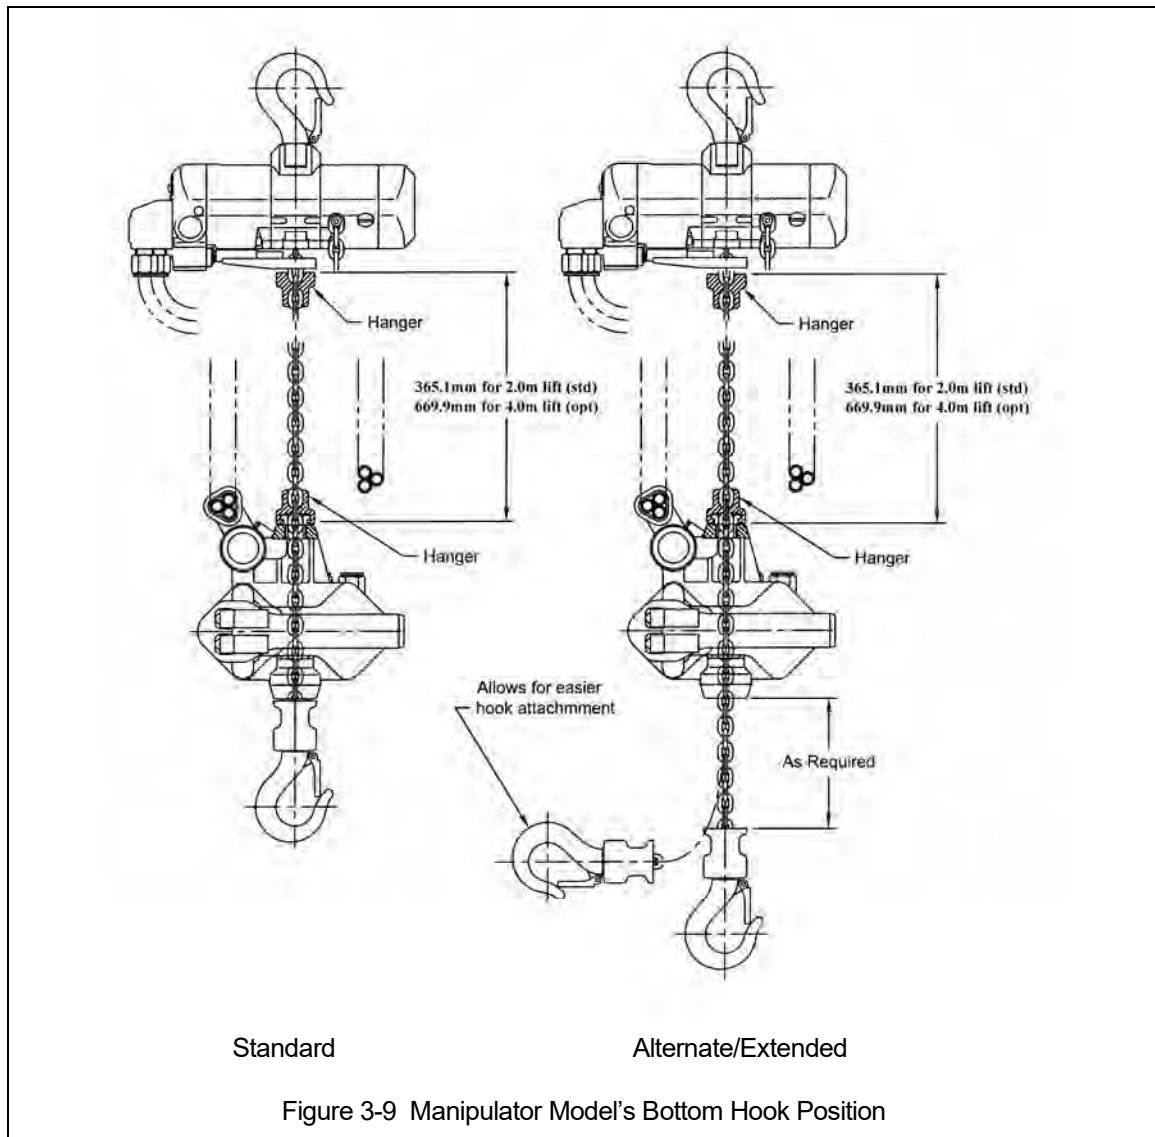

Figure 3-9 Manipulator Model's Bottom Hook Position
3.13.1 The Bottom Hook can be extended below the manipulator control to allow for easier load attachment and operation as required by the application. Follow instructions below. Refer to Figure 3-9.
- 5) Refer to the minimum dimensions between the hangers shown in Figure 3-9. Measure up from the bottom Hanger and reinstall the top Hanger onto the Load Chain.